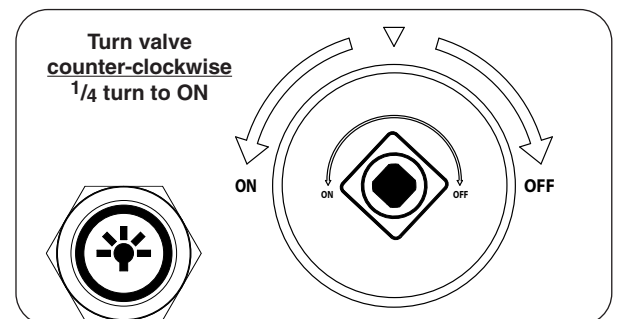

Fig. 43-2 ON/OFF key valve detail
3. Turn the ON/OFF key valve counter-clockwise a 1/4 turn to the **ON** position (Fig. 43-2).